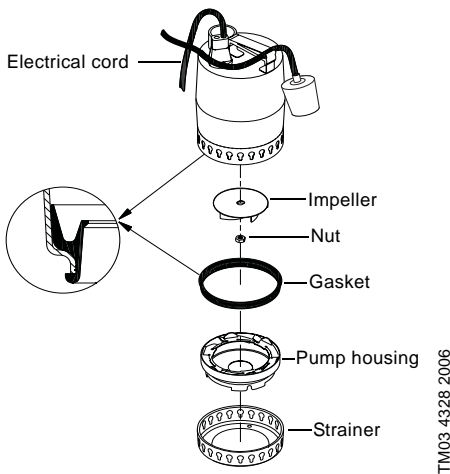

Fig. 11
**Note:** Check before and when fitting the pump housing that the sealing part is positioned correctly, see fig. 11. Moisten the sealing part with water to facilitate the fitting.
The part numbers and the components included in the service kits will appear from the tables below and fig. 11.